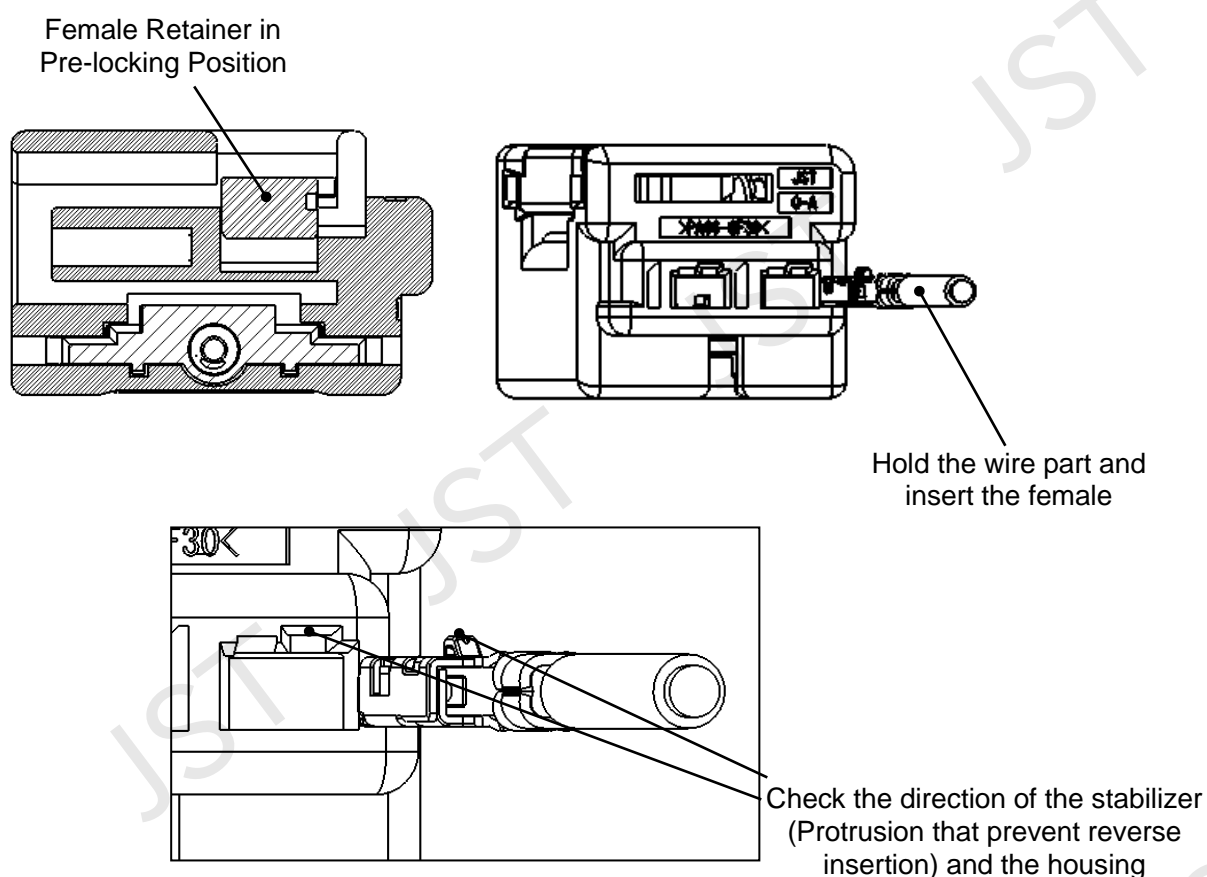

Fig. 6
- ① Check that the retainer is in the pre-locking position. (Fig.6)
- ② Check that the direction of the female terminal is proper before the insertion. (Fig.6)
- ③ Hold the wire part of the female terminal and insert the female terminal without prying straightly into the housing until stopping with a click. (Fig.6 and 7) At that time, pay attention not to bend the wire.
- ④ Pull the wire softly to check that the female terminals are fully inserted.